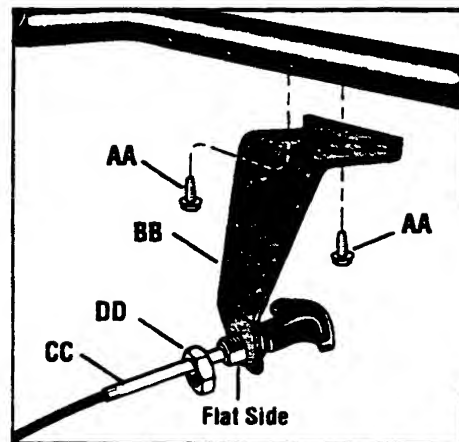
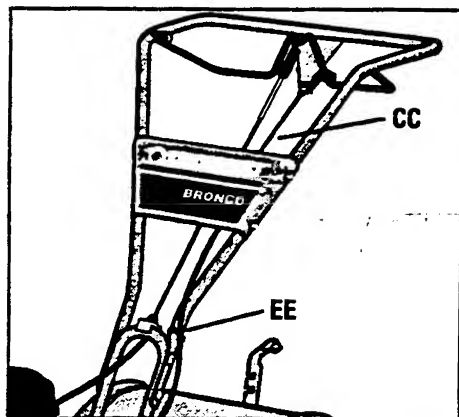

Fig. 2-8: Install reverse cable bracket and reverse clutch cable.
Fig. 2-9: Route reverse clutch cable (CC) as shown. Attach with cable tie (EE).
1. Unwrap the reverse clutch cable (CC, Fig. 2-8 and Fig. 2-9) from its shipping position and route it up to the handlebar. Be sure that the cable is routed beneath the Forward Clutch Bail.
2. Using the two self-tapping screws (AA, Fig. 2-8) secure the reverse cable mounting bracket (BB) to the handlebars, as shown.
3. Insert the cable (CC, Fig. 2-8) through the slot in the cable bracket and position the flat side of the threaded assembly next to the flat side of the hole. Slide the hex nut (DD) up the cable and tighten it securely.
4. Fasten the reverse clutch cable to the left side handlebar with a cable tie (EE, Fig. 2-9).